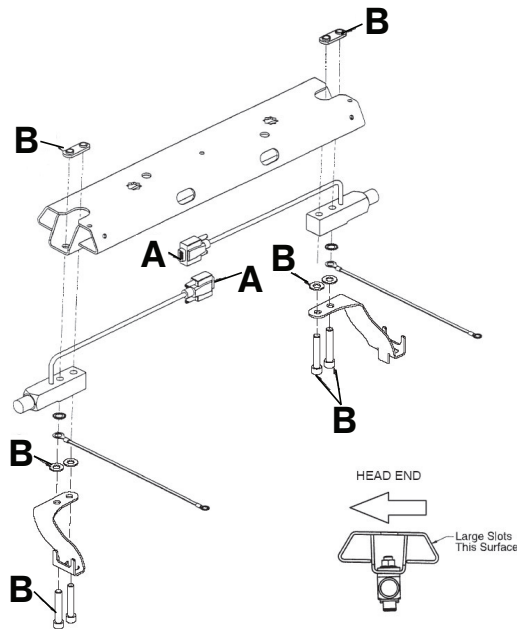

Figure 19 – Replacing the load cell
3. Unplug the load cell connector (A) from the load cell cable (Figure 19). Using wire cutters, cut the cable ties.
4. Using a 1/4" hex wrench, remove the screws, washers, and nuts (B) that secure the load cell to the product (Figure 19).